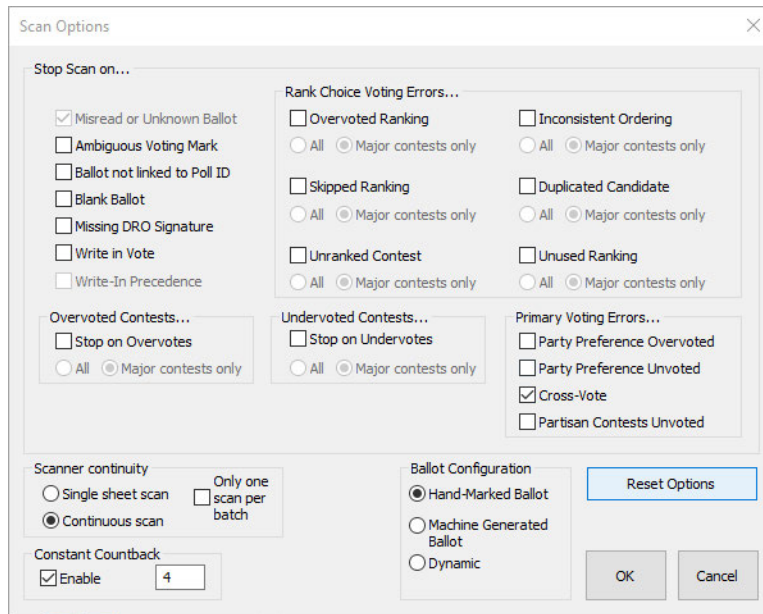

Figure 2-5: Scan Options window
3. Select the errors on which you would like the ImageCast Central to stop scanning, and click **OK**. See Figure 2-5.